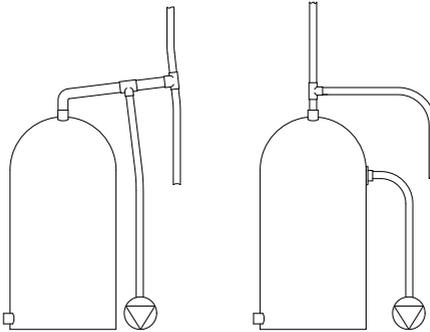

Fig. 5
- 2.25 **Hot water supply:** The pump **must be** supplied with a **dedicated feed** direct from the hot water cylinder or storage tank which should be via a secondary dedicated tapping (see Fig. 5).